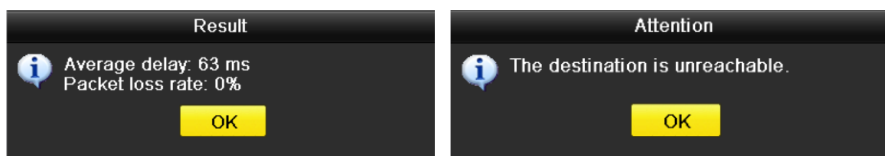

Figure 11-26 Testing Result of Network Delay and Packet Loss
Step 4 Click **Test** button to start testing network delay and packet loss. The testing result pops up on the window. If the testing is failed, the error message box will pop up as well. Refer to Figure 11-26.